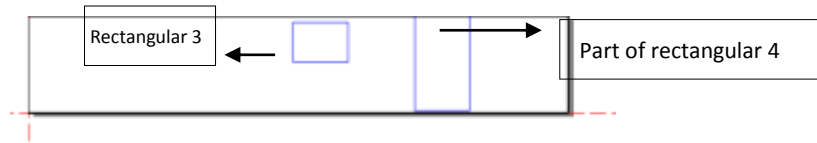

Fig.4-8
- b) The machine feeds materials automatically (the feeding length is the L in the figure) and then cut part of rectangular 3 and 4 in the second breadth because the length of rectangular 4 exceeds the machine breadth, as shown in fig.4-8: